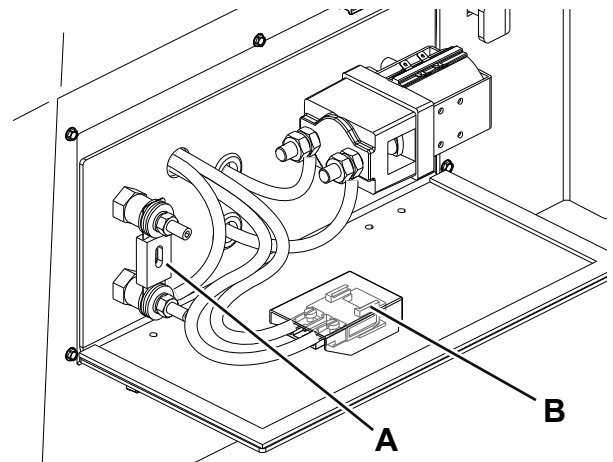

Figure 9
3. Turn the ignition key (57) to "O" and remove it.
4. Open the fuse box cover (23).
- (A, Fig. 9): Main pump motor fuse F0 (250 A)
- (B): Auxiliary circuit lamellar fuse F10 (30 A) (B)
6. Close the fuse box (23).